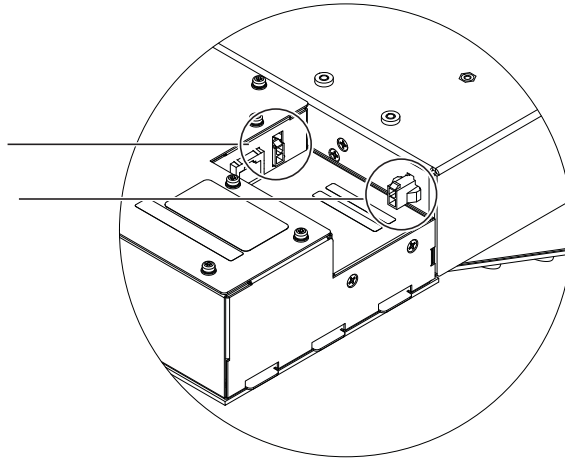

Figure 33. Connecting both DC power cables to the Master Module
- 1 Hold the Master Module above the chassis and connect two of the 2-pin Molex cables in the Cable Harness, one to each of the two DC inputs on the side of the module as shown in Figure 33.